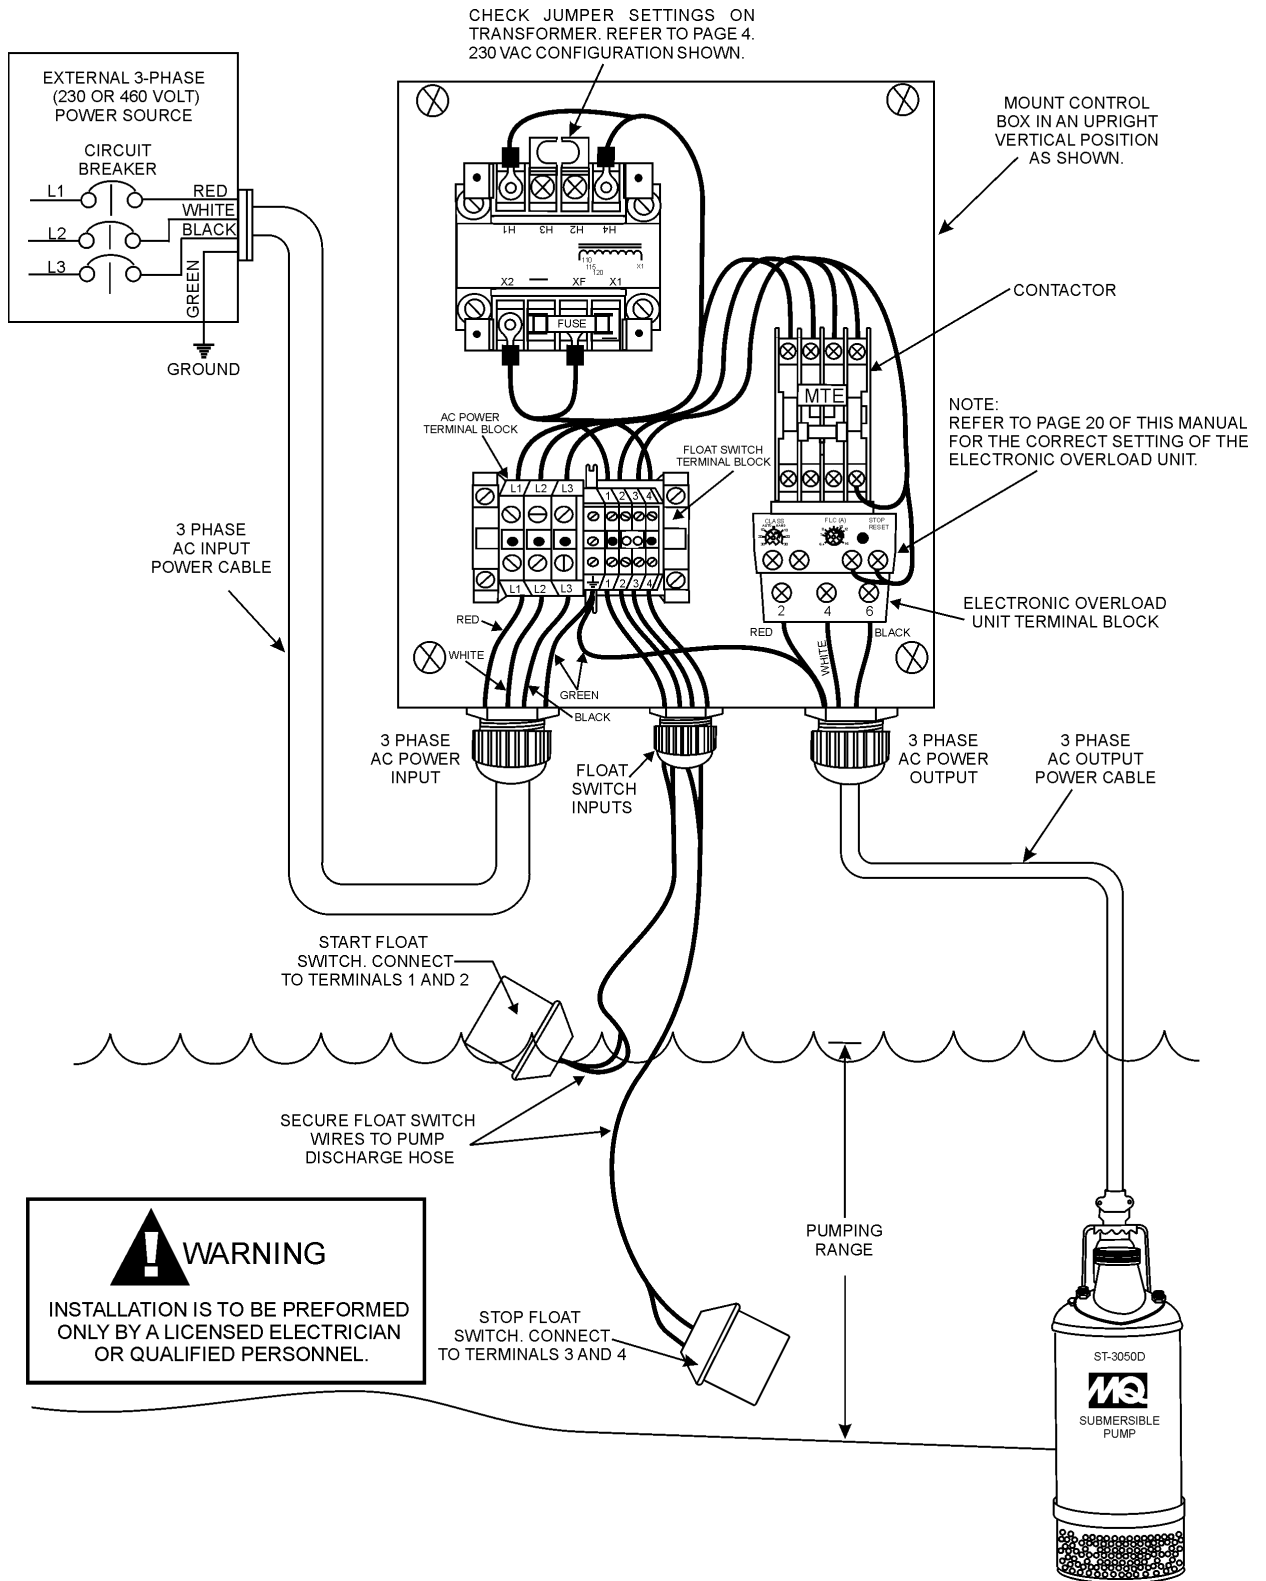

Figure 8. Three Phase Control Box/Pump System Diagram
2. Remove the 3-phase AC input connector housing from the control box, then route the three phase input power cable through the cable gland on the control box. Attach the wires to the AC terminal block inside the control box as indicated by Table 5 and Figure 8.
2. Remove the 3-phase AC output power connector housing on the control box, then route the three phase output power cable through the cable gland on the control box. Attach the wires to the AC terminal blocks on the **electronic overload** unit as indicated by Table 6 and Figure 8.